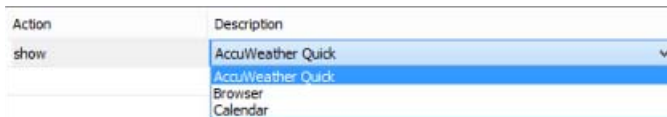

FIG. 385 Edit Event Actions dialog - Application added
5. Under **Description**, select an Application for this Launch Action from a drop-down menu of all Application windows in this project (FIG. 385):